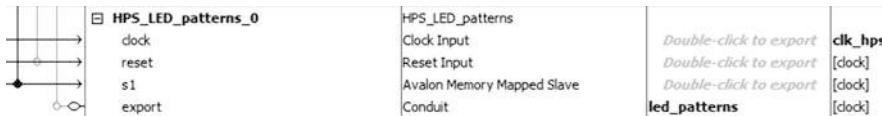

Fig. 6.5: Exporting the led\_patterns signal in Platform Designer
- On the line that says **export** in the *Name* column and also **Conduit** in the *Description* column for the HPS\_LED\_patterns component, double click where it says **Double click to export**. Rename this export signal name from *hps\_led\_patterns\_0\_export* to **led\_patterns** (Fig. 6.5).